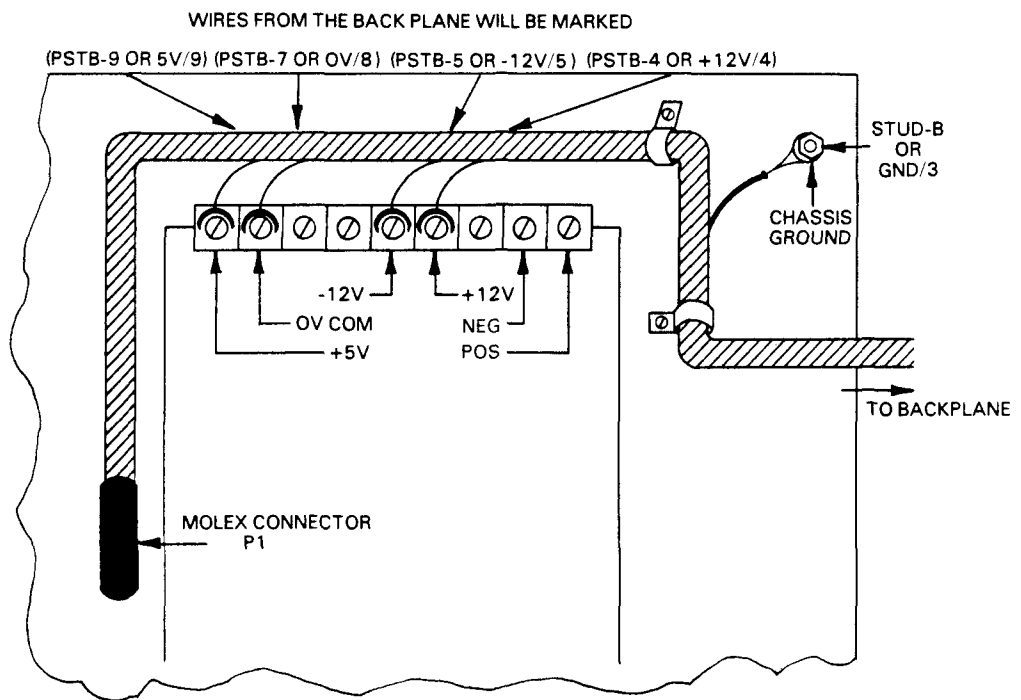

Figure 3 HIGH CAPACITY I/O POWER SUPPLY EXTERNAL WIRING
9. Locate the wires that extend from the back of the I/O rack to the terminal on the power supply. These wires should be labeled or stamped with their location; the circuit boards have wire locations stamped on them also. (Refer to Figure 3.) Remove these wires. There is also a plastic wire clamp holding these wires in place. Detach this from the frame if there is not a similar item on the replacement power supply, or cut the clamp if there is one on the new supply.
11. Take the replacement power supply and attach the wires as shown in Figure 3. Be sure to connect the molex connector (PI) to the power supply. Attach the wire clamp on the upper stud of the power supply frame, or if there is a clamp already there, wrap the wires in it.